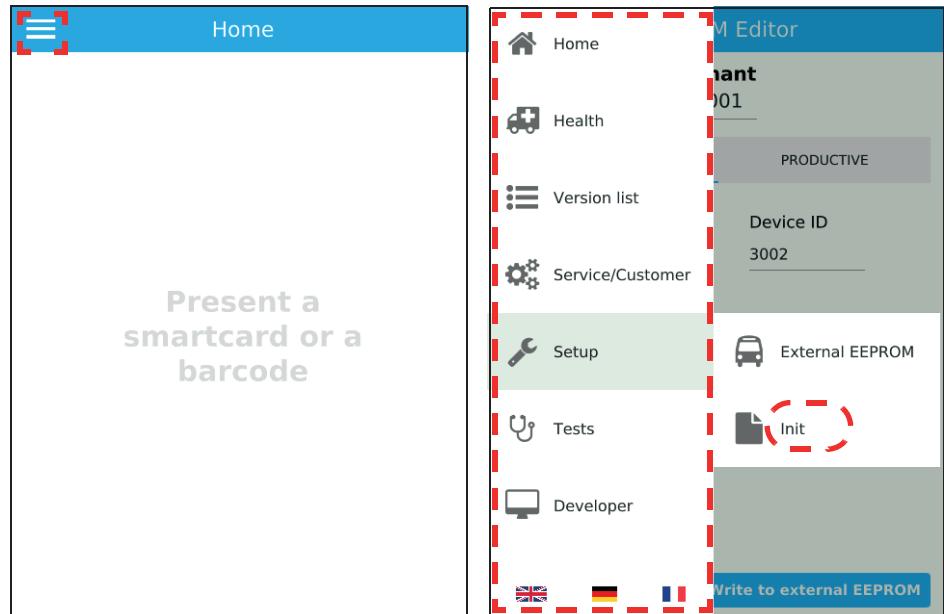

Figure 4-3 BAT - Menu, <Setup>/<Init>
- Step 5** Select <Setup>/<Init> in the menu, see **Figure 4-3**.